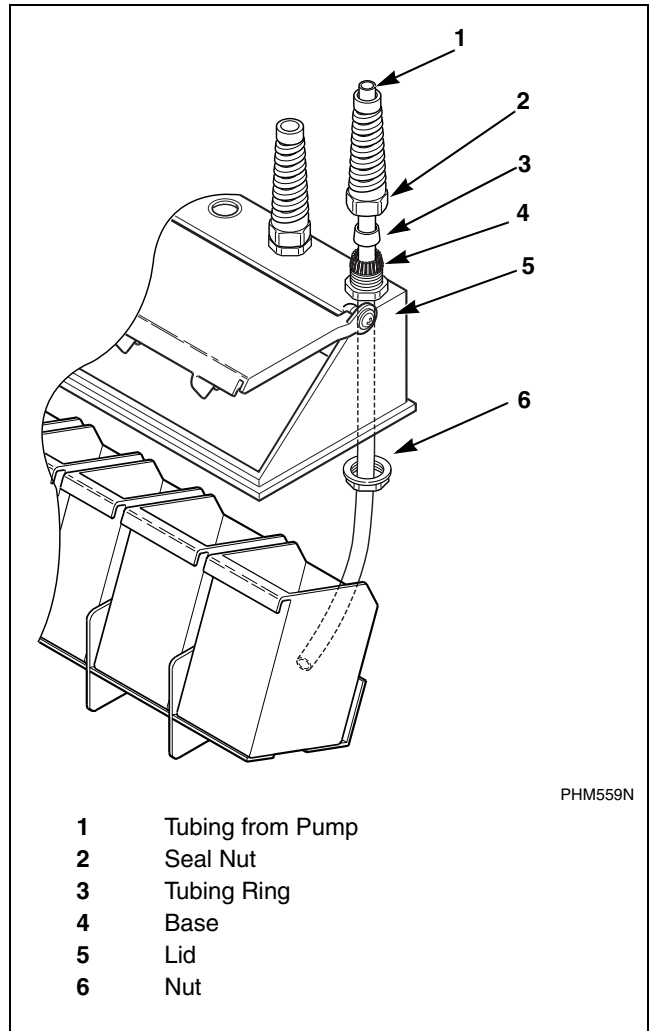

Figure 19
1. Remove knockout from supply dispenser. Refer to *Figure 19*. Plugs are assembled inside the tubing ring.